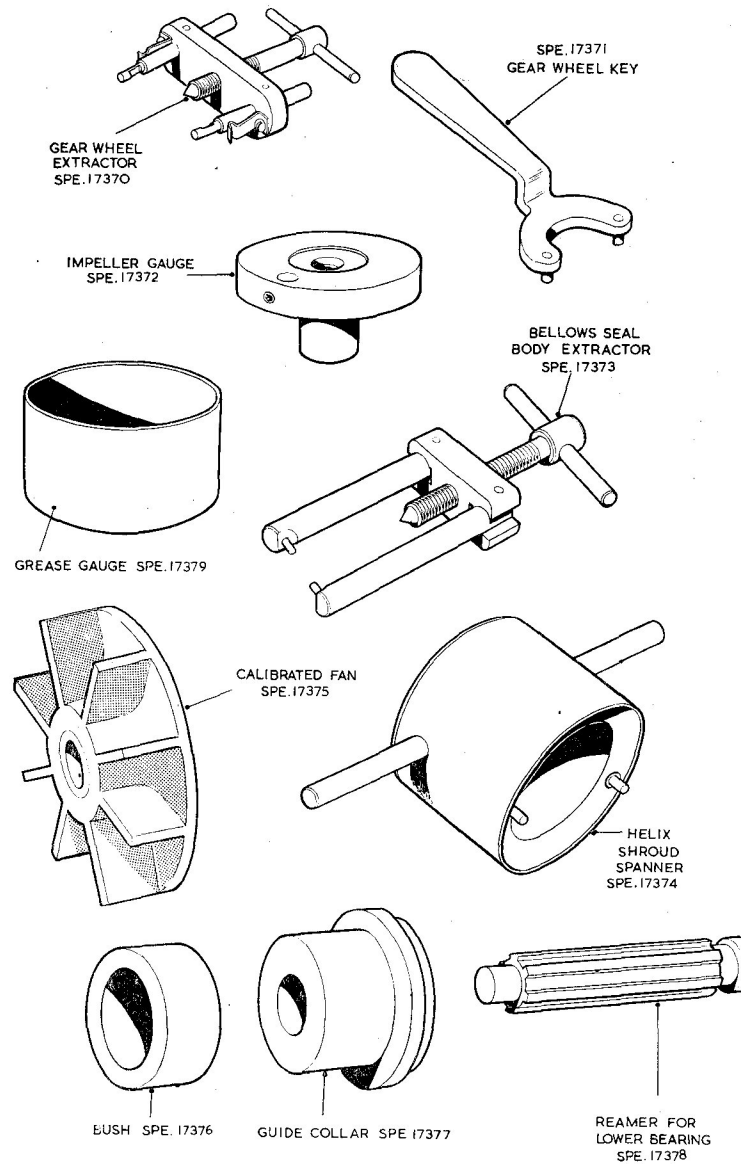

Fig. 3. General tools
(2) Hold the bevel gear (5) with the special key SPE.17371 (fig. 3), then unscrew the lower spindle and nut (133) and remove the washer (132). Withdraw the helix (130) together with any adjusting shims (134) that may be fitted.
(3) Use the special spanner SPE.17374 (fig. 3) to remove the helix shroud (127) from the volute assembly (140). Withdraw the centrifugal impeller (128) from the spindle together with any shims (129) that may be fitted.
7. Hold the gear with the special key SPE.17371 (fig. 3) then unscrew and remove the self-locking nut (4) and clamp washer (3) securing the bevel gear (5) to the shaft. Using the extractor tool SPE.17370 (fig. 3) withdraw the gear. Remove any shims (6) that may be fitted and retain the drive key (7).